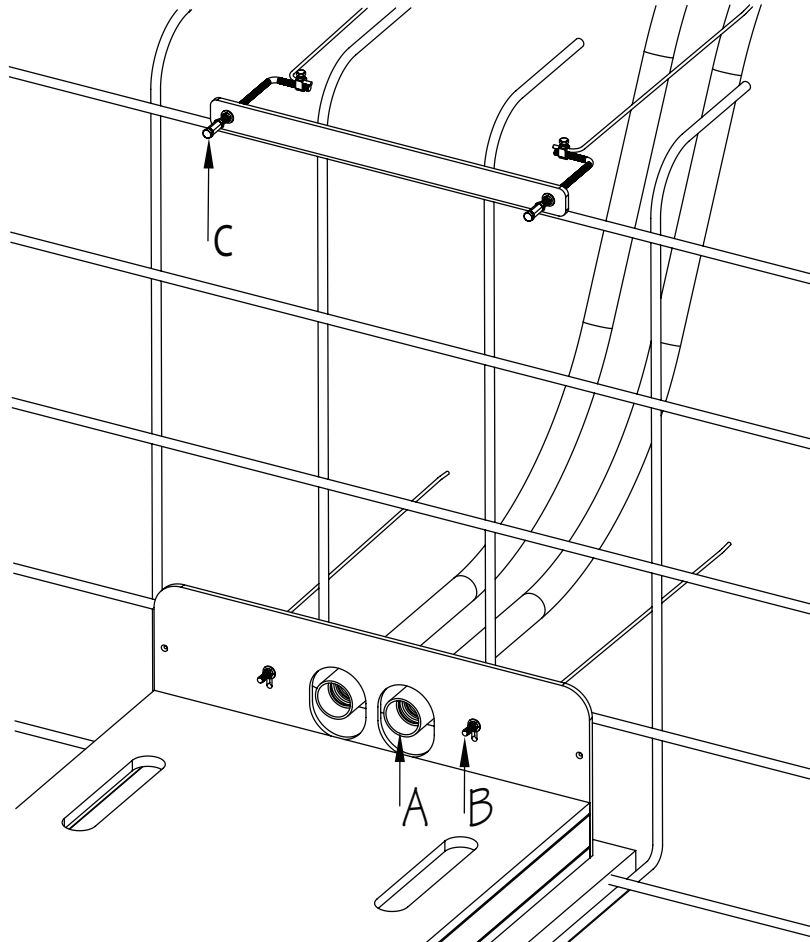

Fig. 11
4.5 Prior to shooting gunite, it is CRITICAL that the openings of the PVC Couplings (A), Threaded Rods (B), and Sacrificial Bolts (C) are covered. Gunite cannot be embedded in these areas (Fig. 11).